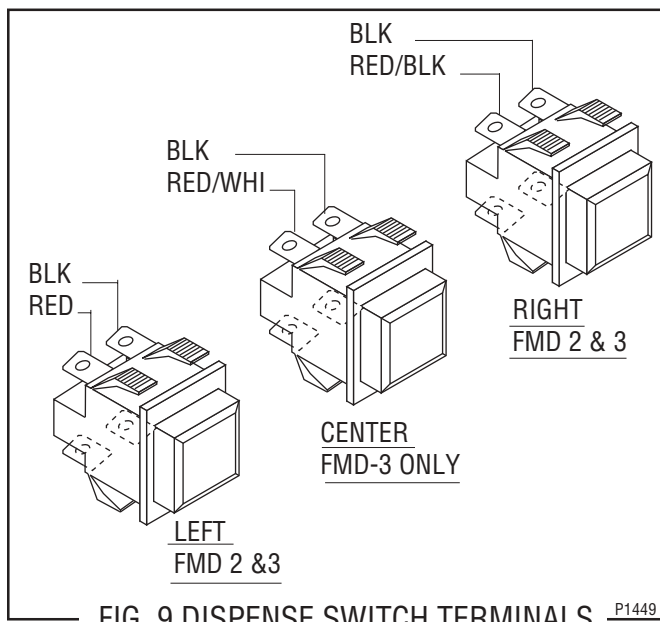

FIG. 9 DISPENSE SWITCH TERMINALS P1449
8. Refer to Fig. 9 when reinstalling wires.